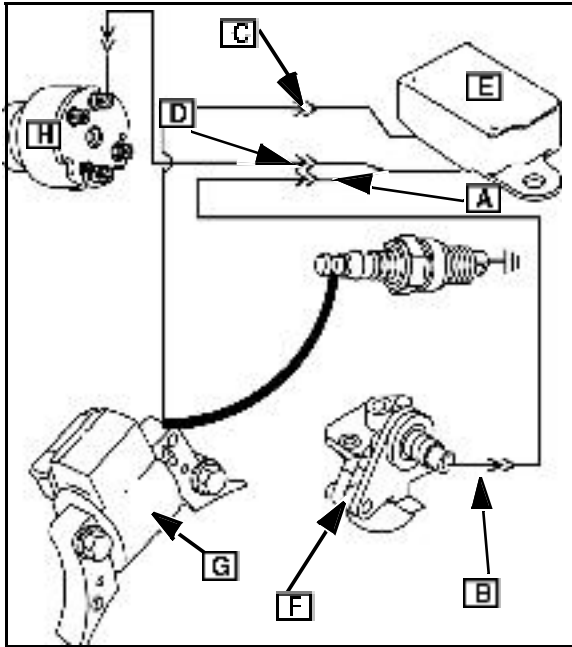

Fig. 51
Disconnect the BLUE or BLACK wire at ([A] Fig. 51) and start engine.
- Replace the module ([E] Fig. 51) and retest.
- Check continuity in the wire between ([A and B] Fig. 51).
- Disconnect wires at ([C and D] Fig. 51) and attempt an engine start.
- Check the ignition switch ([H] Fig. 51).